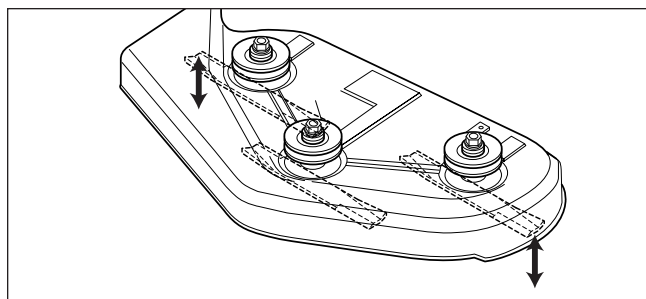
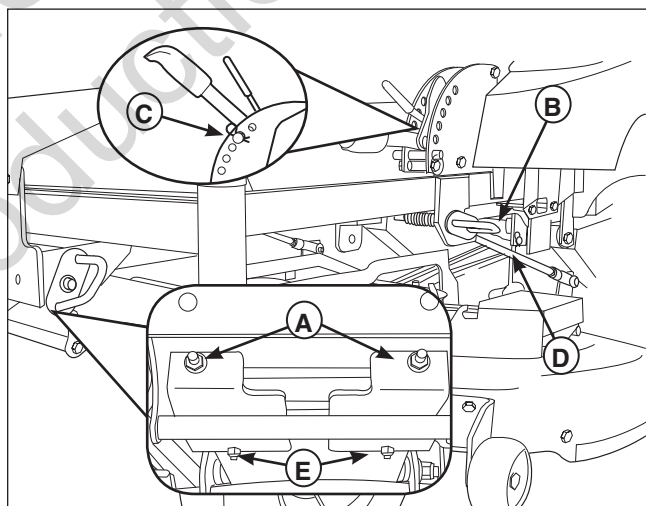

Figure 38. Orient Blades Side-to-Side
Figure 40. Mower Leveling
2. See Figure 38. Note the position of the 3 adjustment windows (A) in the side of the brake plate and the nylock adjustment nuts (B).
4. Alternately tighten the adjustment nuts (B, Figure 38) until the rotor face and armature face just contacts the gauge.
6. Check the mower blade stopping time. The mower blades and mower drive belt should come to a complete stop within five (5) seconds after the electric PTO switch is turned off.
3. Place the mower cutting height pin in the 4th hole from the bottom (see insert, Figure 40). Arrange the outside mower blades so that they are pointing from side-to-side (Figure 38).
4. Measure the distance between the outside tips of each blade and the ground (Figures 38 & 39). If there is more than 1/8" (3mm) difference between the measurements on each side, proceed to step 5. If the difference is 1/8" (3mm) or less, proceed to step 6.
5. Use the rear leveling links (B, Figure 40) to adjust the side-to-side leveling of the deck. Repeat step 4 if necessary.
8. Check the length of the hanging rods. The rear (D, Figure 40) should be 15" (38,1cm) and is not adjusted. To adjust the pitch of the mower deck, adjust the front leveling nuts only.
9. Loosen the front lock nuts (E, Figure 40).
10. Turn the leveling nuts (A, Figure 40) counter-clockwise to lower the front of mower deck. Turn the nuts clockwise to raise the front of the mower. Make adjustments in small increments, trying to keep tension on both leveling nuts.
11. Tighten the front lock nuts (E).
3. Place the mower cutting height pin in the 4th hole from the bottom (C, Figure 40).